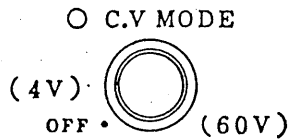

Figure 2-8-3
Step 5. Set a desired voltage value with the CV mode dial. (See Fig. 2-8-3). A yellow LED will be lit during the constant voltage mode. If the LED is not lit one of the following may be the cause: